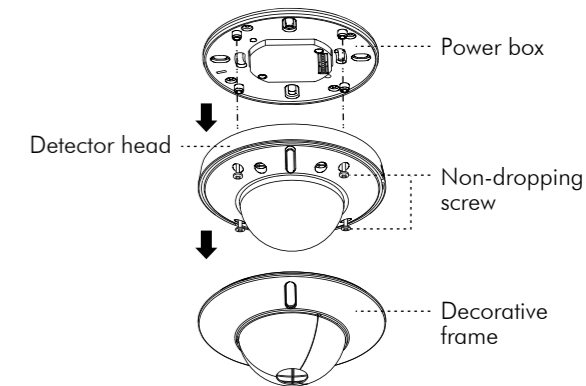

FIG.6
3.4.1.1 Take off decorative frame of KDP-DALI-03-S, then take the detector head apart from power box by unscrew its 4pcs non-dropping screws (See FIG.6).
3.4.1.4 Fix the detector head on power box by inserting its four non-dropping screws into the corresponding screw holes, then cover up the decorative frame (See FIG.6).